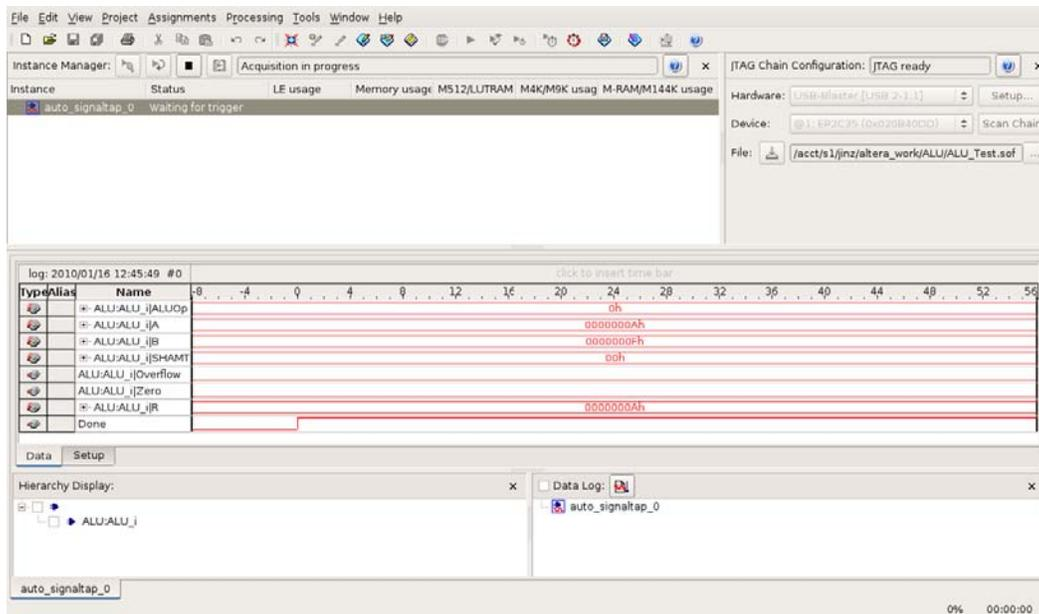

Figure 12-2. Graphical display of values after trigger condition is met.
2. Now, to observe the trigger feature of the Logic Analyzer, launch the ALU GUI test program by typing the command `quartus_stp -t ALU_Test.tcl` in your ALU directory. Enter ALU input data and operation encodings in the text boxes. After you click on the **Test** button, the data tab of the SignalTap II window should display the similar image in Figure 12-2. And the ALU input/output signals should display the same values as those shown in the GUI test program.